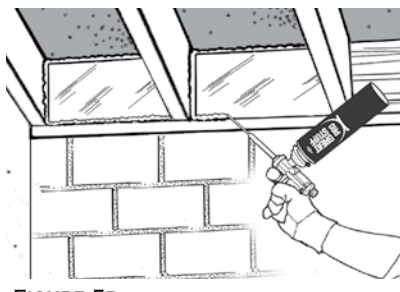

FIGURE 5B
b. Option 2: Use STYROFOAM™ brand rigid insulation boards up to 2 inches in thickness, cut to fit between the floor joists, and seal the edges of the foam with GREAT STUFF PRO™ Gaps & Cracks. (See Figure 5b.)
c. Option 3: Use THERMAX™ rigid insulation boards up to 4 inches in thickness, cut to fit between the floor joists, and seal the edges of the foam with GREAT STUFF PRO™ Gaps & Cracks. (See Figure 5b.)